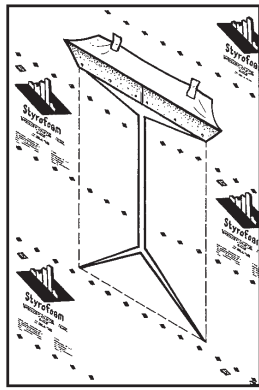

Figure 1
c. At the top of each jamb, cut the housewrap 6" at a 45-degree angle. Pull up and temporarily fasten above window opening (Figure 1).